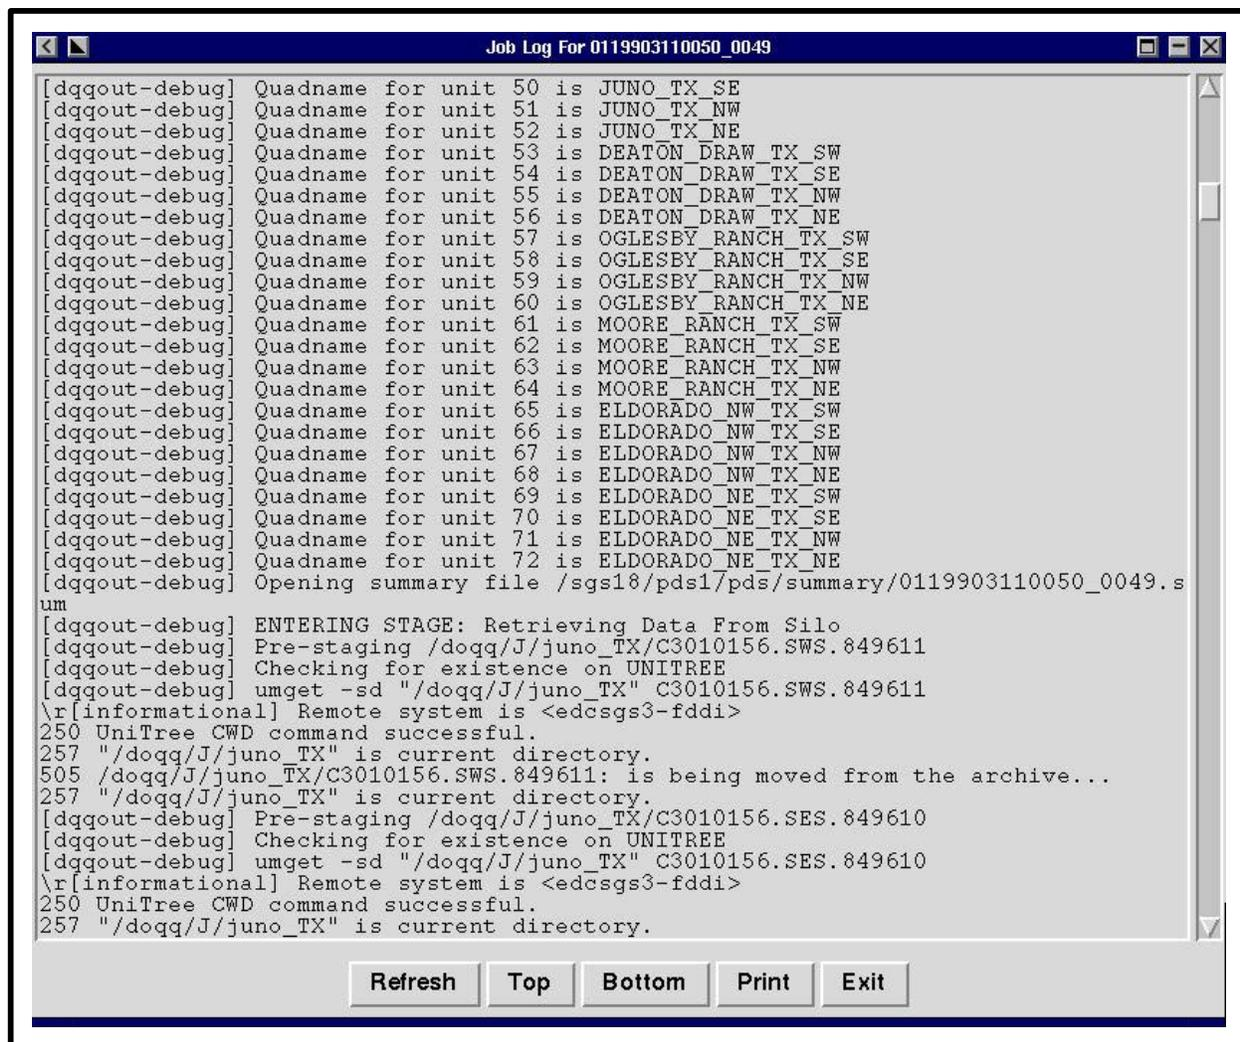

Figure 44. Example of a PDS Job Log
- The log for the selected job is displayed in a text window (refer to the example in Figure 44).